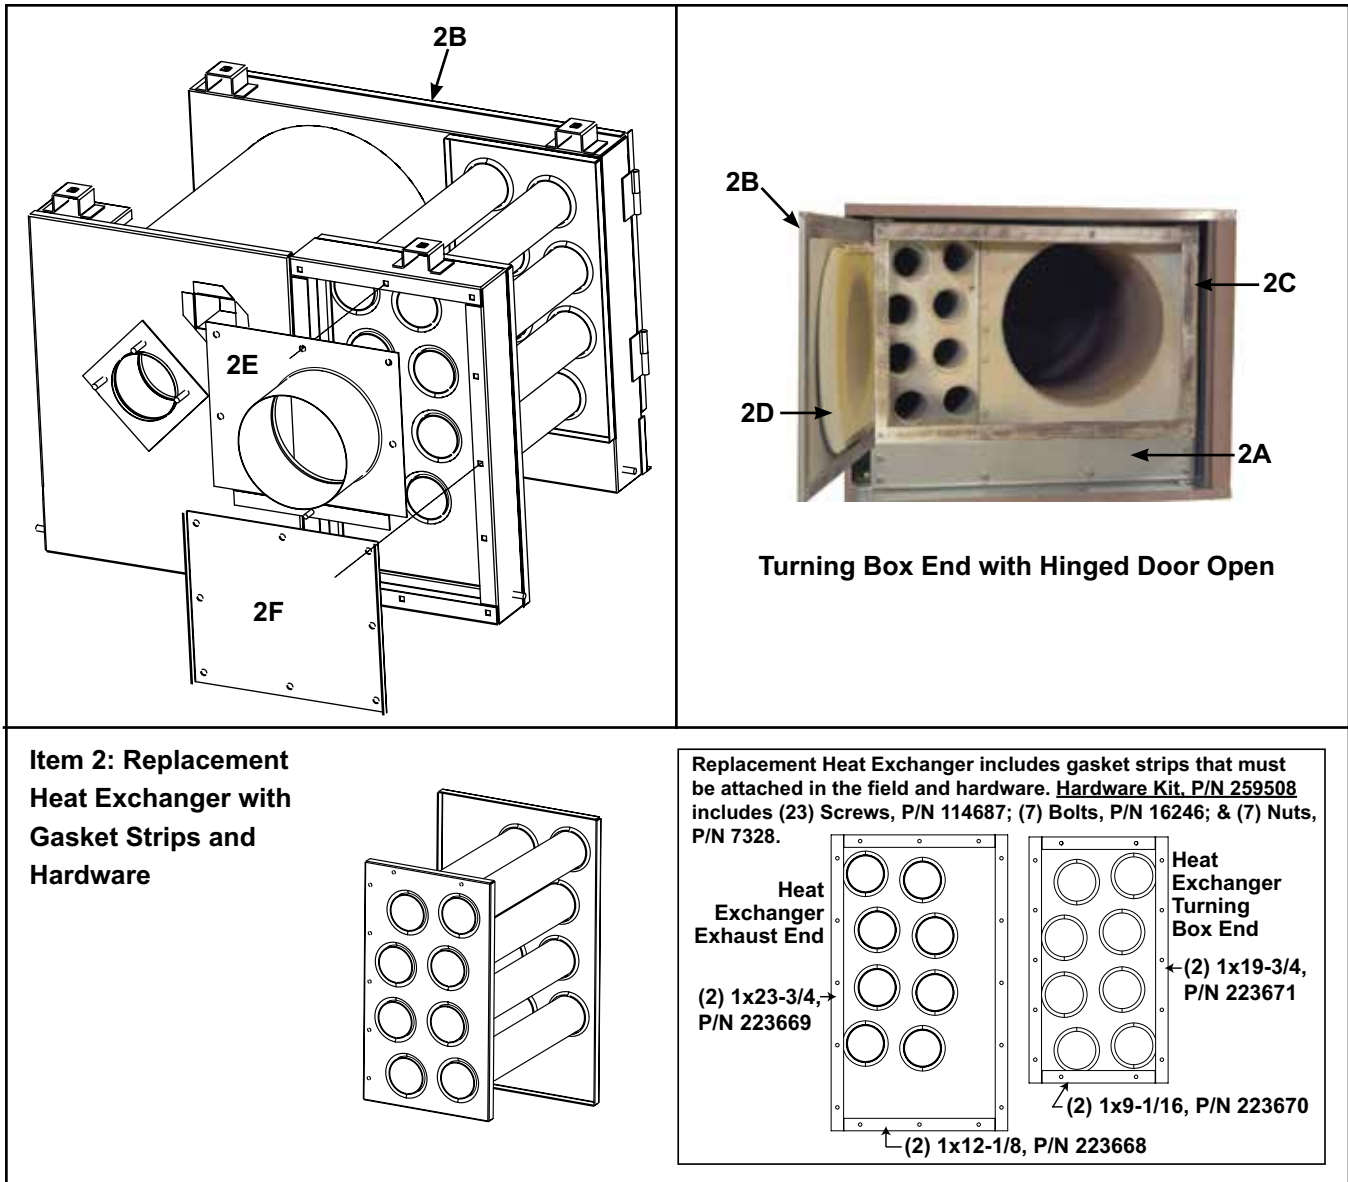

Figure 26. Heat Exchanger/Combustion Chamber and Exhaust Box Assemblies—RA and RAD Models, Unit Sizes 150 and 250 (Refer to Table 18)
- Heat exchanger/combustion chamber assembly and exhaust box components for RA and RAD models—unit sizes 150 and 250—are shown in Figure 26 and listed in Table 18.